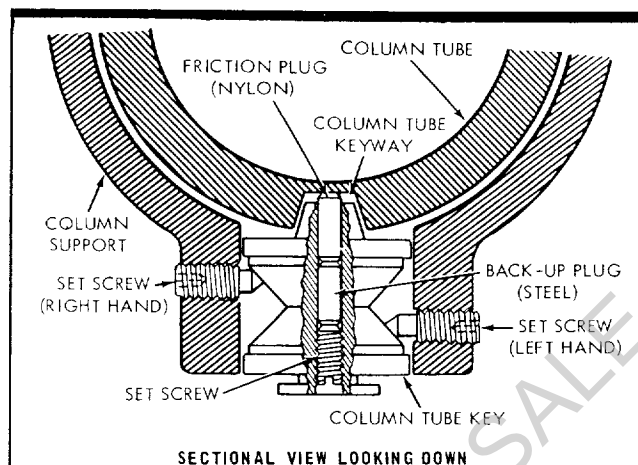
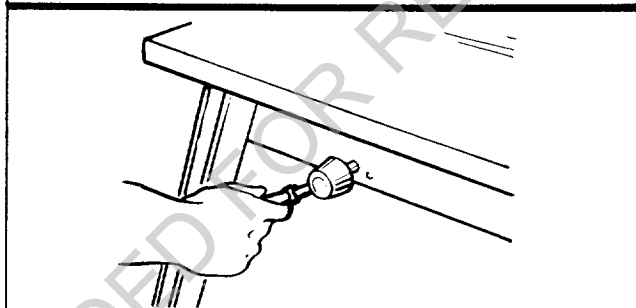

Figure 5
Figure 6
NOTE: Before attempting to adjust the column tube key, the function of this adjustment should be understood. Figure 5 shows a sectional view through the column tube support (looking downward) at this location. By loosening the left-hand set screw and tightening the right-hand set screw the column tube key will be forced tighter into the column tube keyway. Conversely, loosening the right-hand set screw and tightening the left-hand
- Loosen set screw in center of column tube key. (See figure 5.)
- Loosen left-hand set screw 1/4 turn. (See figure 5.)
- Tighten right-hand set screw. (See figure 5.)
- Tighten left-hand set screw. (See figure 5.)
- Turn elevation crank to raise and lower radial arm. (See figure 6.) If too tight, loosen right-hand set screw (figure 5) slightly and check again for smooth operation. When correct, tighten left-hand set screw
- Tighten set screw in center of column tube key (figure 5) until smoothest operation is obtained.